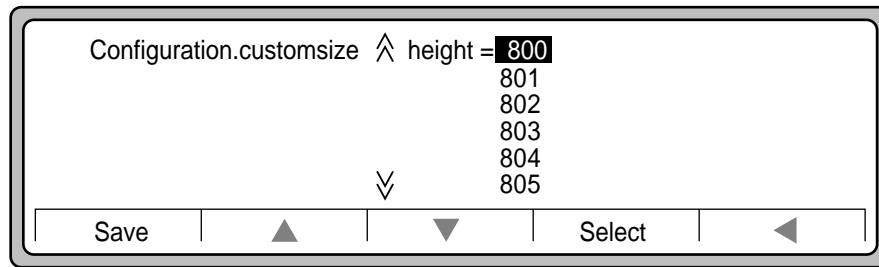

Figure 3-24 Height selection for Custom Paper Tray
18. Press ▲ or ▼ until your number is highlighted (our example is 800, as shown in Figure 3-24).